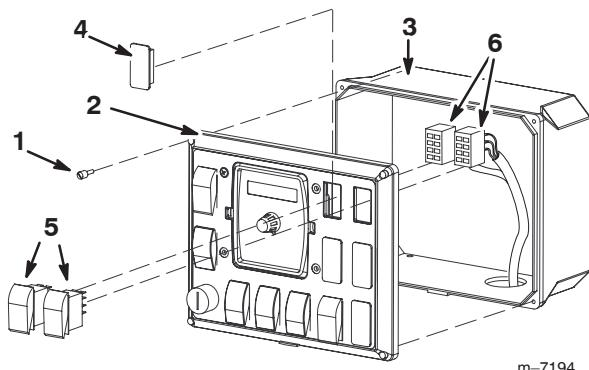

Figure 9
1. Loosen the 4 screws securing the front panel to the control box (Fig. 9).
2. Remove the front panel expose the inside of the control box (Fig. 9).
3. Lift and remove the 2 plugs from the spray control panel on the vehicle and install the 2 rocker switches provided in their place (Fig. 9).